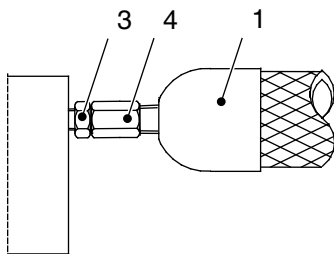

Figure 3-12 Hose connection
1. First connect the hose (1, Figure 3-12) electrically to the melter. Refer to the wiring diagram for the connecting arrangement.
If cold adhesive can be found in the hose connection, the components (3, 4, Figure 3-12) must be heated until the adhesive softens (approx. 70 °C/ 158 °F, depending on adhesive).